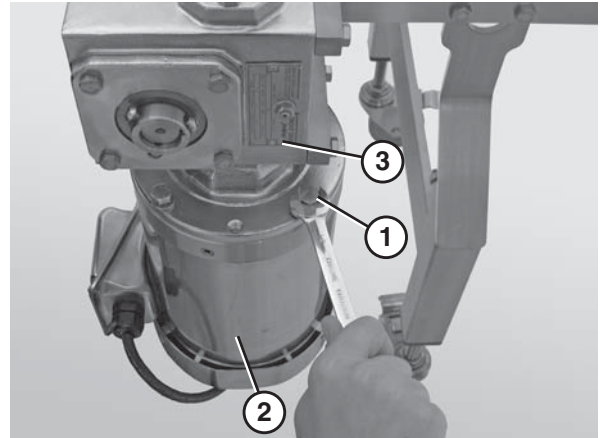

Figure 23
1. Remove the bolts (Figure 23, item 1) that connect the motor (Figure 23, item 2) to the gear reducer (Figure 23, item 3) (vertical drive shown in figures).